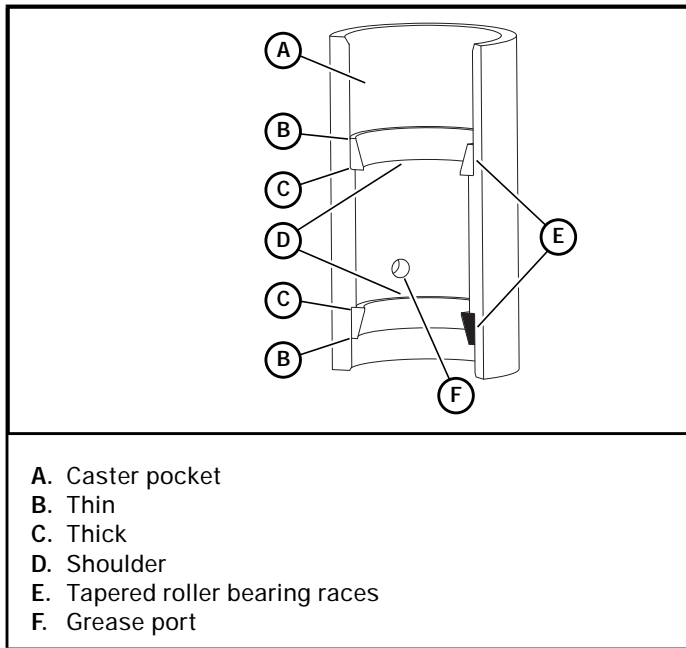

Figure 4-13
7. Make sure the bearings outer race is correctly aligned before pressing the outer race into the fully-seated position against the caster pocket shoulder. Figure 4-13